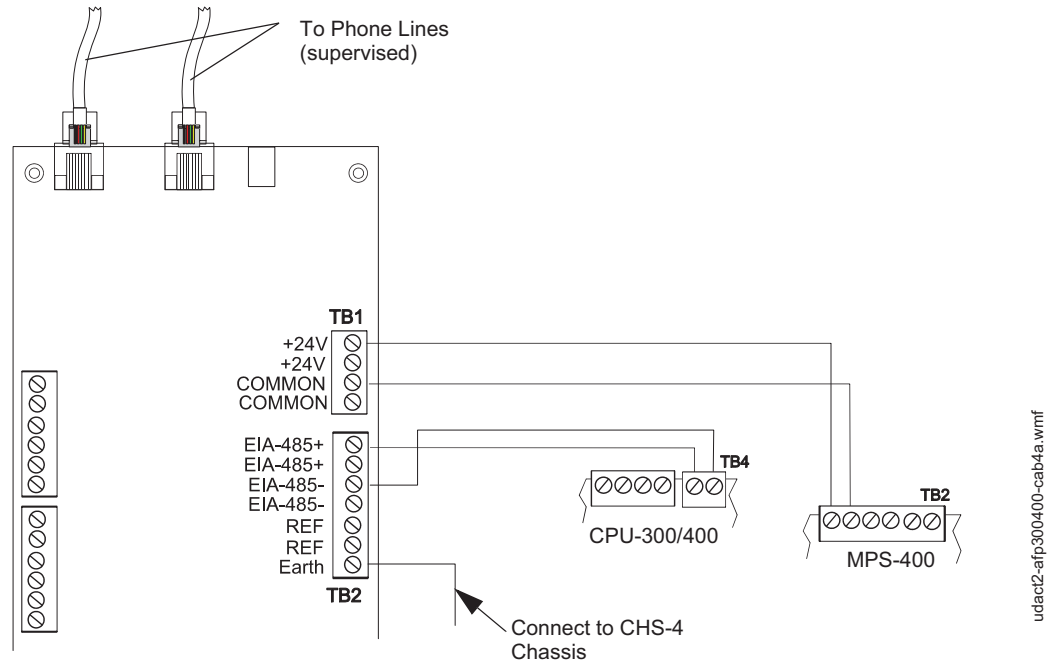

Figure A.3 AFP-300/AFP-400 and UDACT-2 in CAB-3/4
1. Recommended wire is 12 AWG (3.25mm²) to 18 AWG (0.75mm²), twisted pair, shielded cable. Connect only one end of shield: a) shield may be connected to cabinet (earth ground) at fire alarm panel, or b) shield may be connected to a Common Terminal at TB2 on the UDACT-2 as shown in Figure A.3.